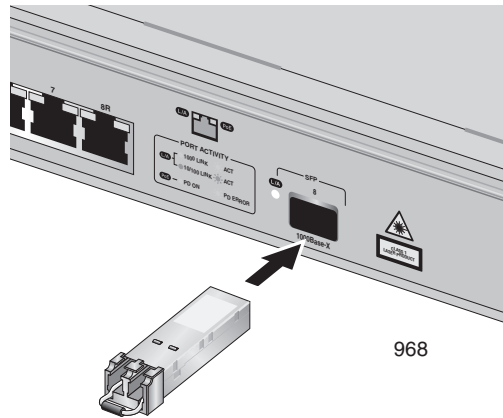

Figure 10. Inserting the SFP
- Slide the SFP transceiver into the SFP slot on the switch, as shown in Figure 10.